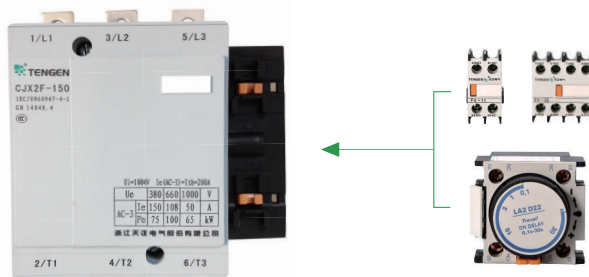

Fig. 1 Contactor equipping with accessory diagram
- 5.5 Some accessories such as auxiliary contact sets and air delay heads can be installed in a building block installation way, as shown in Fig. 1.